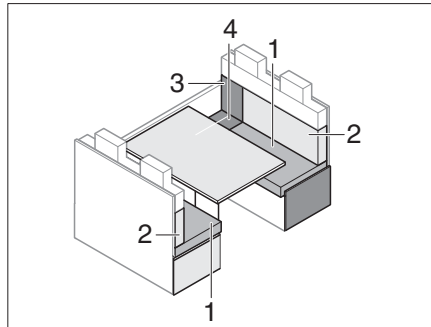

Fig. 180 Prior to conversion
- Remove the back cushion (Fig. 180,2) and lay it to the side.